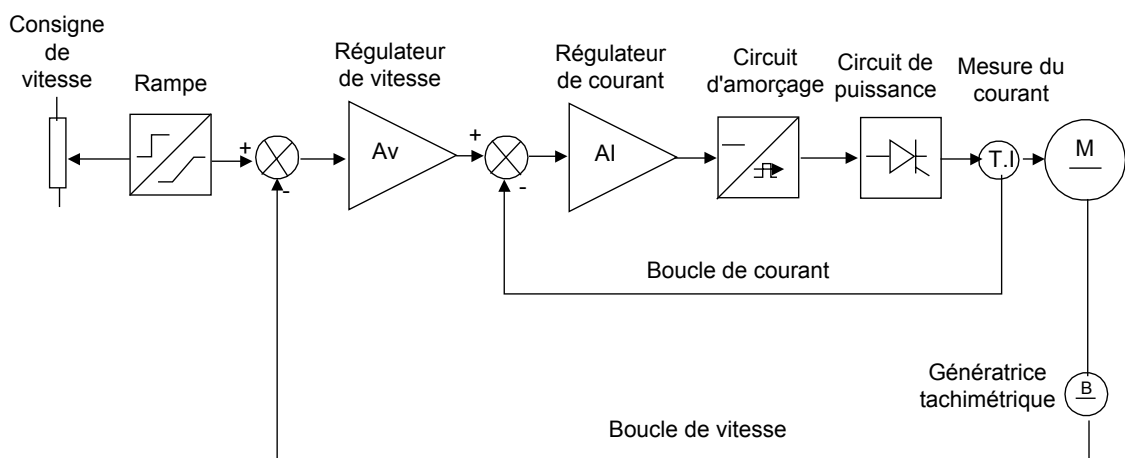

FIGURE 4-15 ASSERVISSEMENT AVEC LIMITATION DE COURANT
**Limitation de courant** (Figure 4-15)